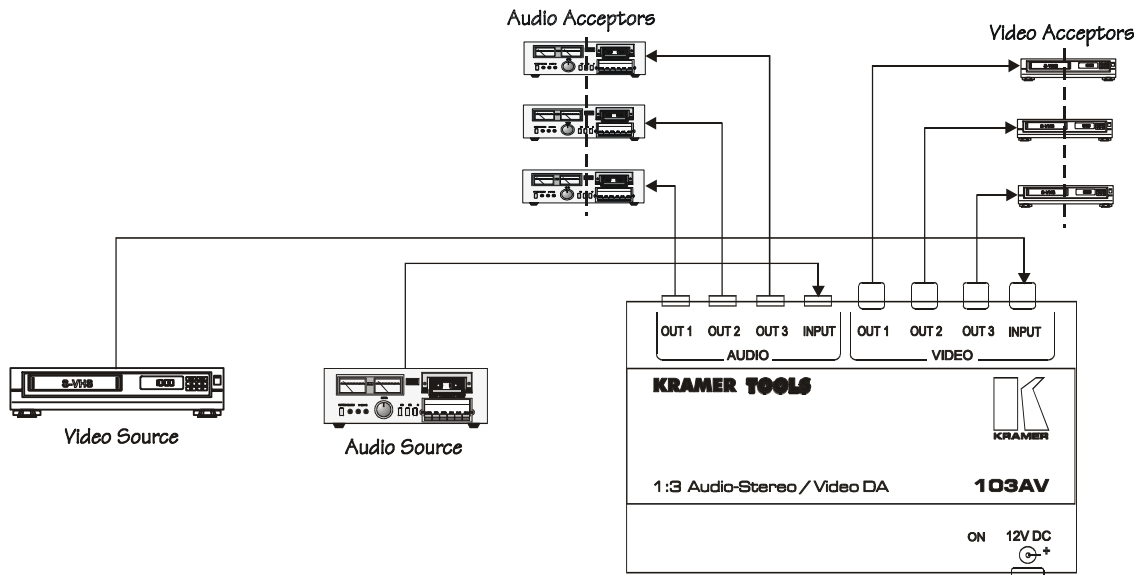

Figure 10: Combined Audio and Video Distribution
When a combined audio and video distribution is required, a combination of independent audio and video sources together with an audio/video distributor should be set up. Figure 10 describes a typical configuration using the 103AV video distributor together with audio and video sources. The 103AV receives audio and video signals at its **INPUT** connectors. The 103AV splits its incoming audio and video inputs to three audio acceptors and three video acceptors.
If only one of the distributors' outputs requires line amplification, while all the others are nearly located, connect the line amplifiers' input to the distributors' "long line desired" output as described in Figure 10 (B).